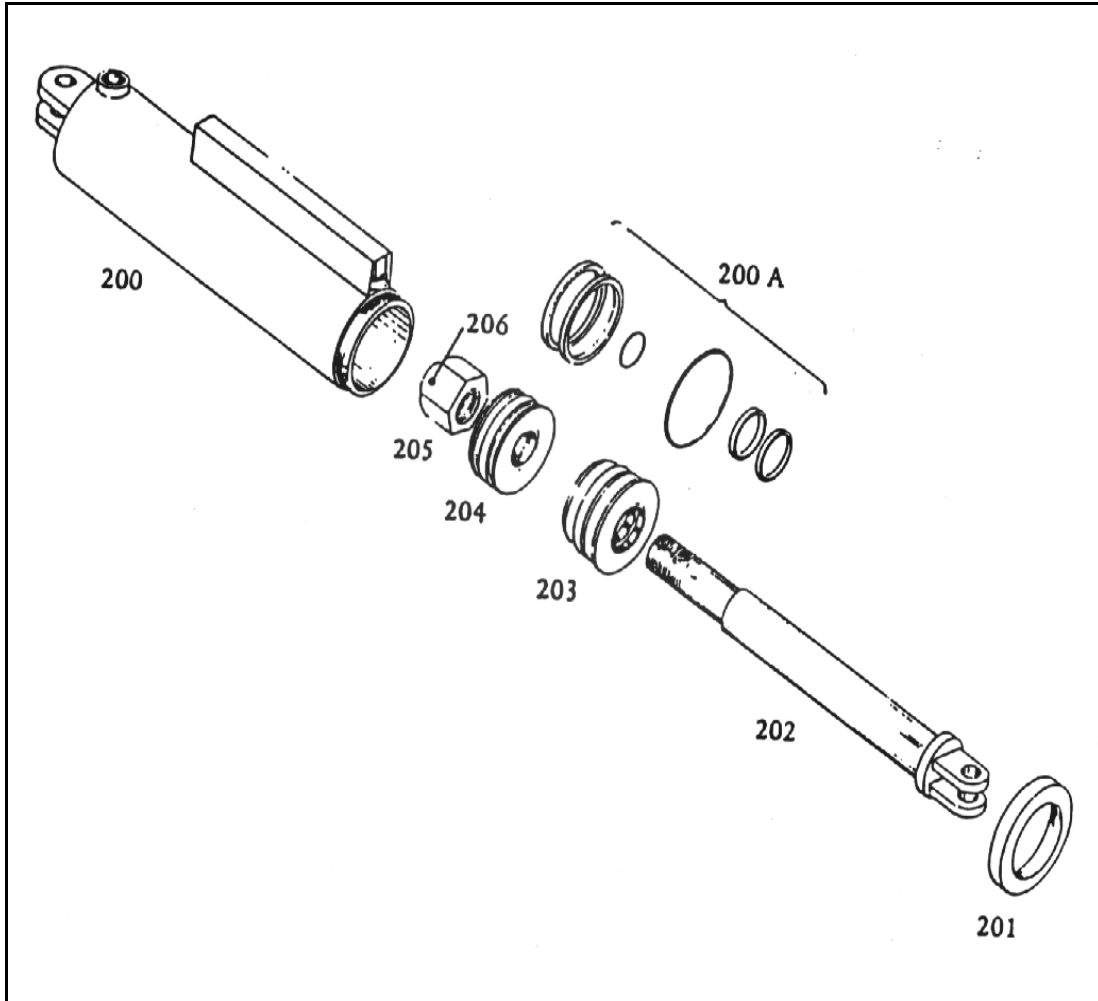

Figure V-4. Hydraulic Cylinder, Exploded View.
V-7.3 Cylinder Disassembly. (See Figure V-4).
- c. Figure V-4, Hydraulic Cylinder, Exploded View.